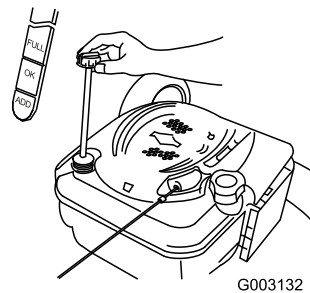

Figure 38
4. **Slowly** pour oil into the oil fill tube until the oil level reaches the Full line on the dipstick (Figure 38). **Do not overfill.** (Max. fill: 20 oz., type: SAE 30W detergent oil with an API service classification of SF, SG, SH, SJ, SL, or higher.)